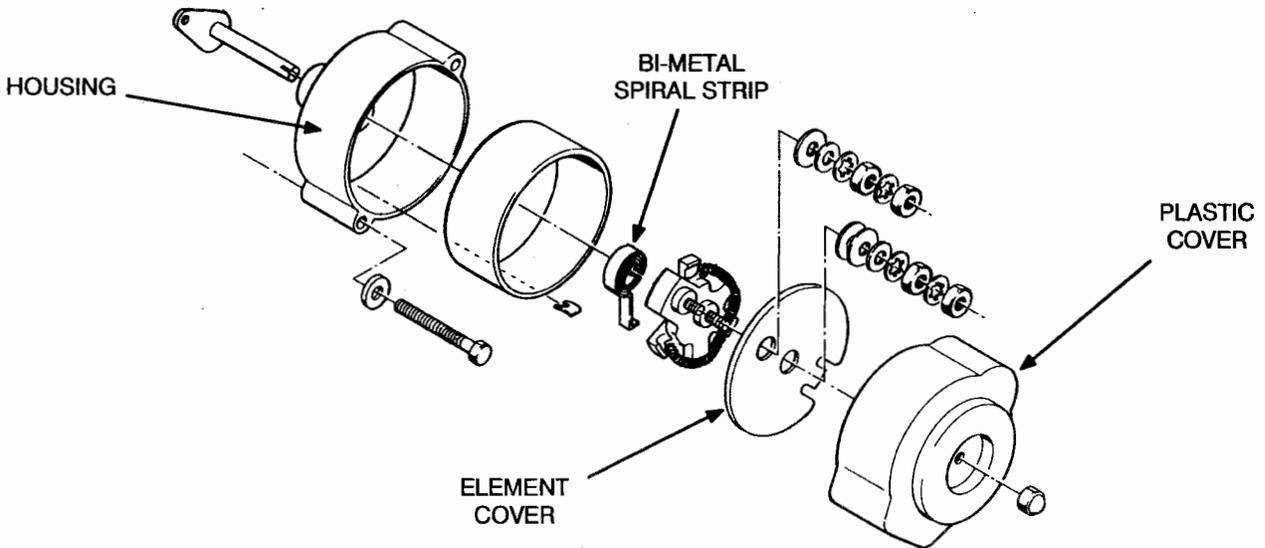

FIGURE 6-22. CHOKE ASSEMBLY (SPEC A GASOLINE AND UP TO SPEC E LPG)
1. Remove the plastic choke cover (see Figure 6-22) and loosen the heating element cover screws.